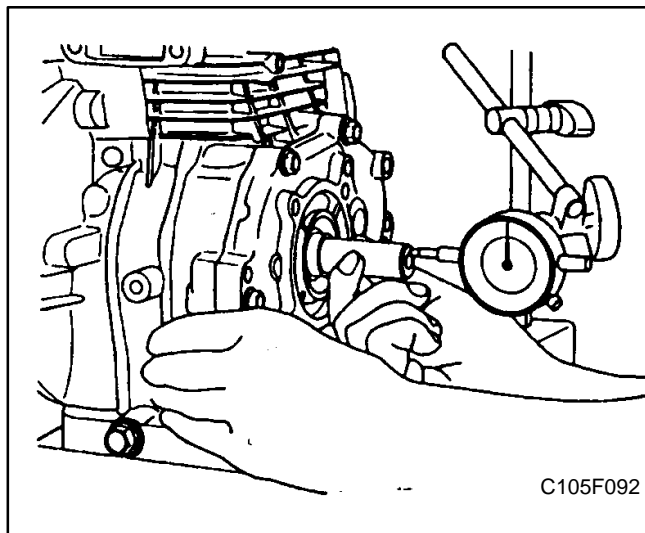

FIGURE 9-25. SIDE CLEARANCE OF CRANKSHAFT
1. Set a dial gauge, as shown in Figure 9-25, push the shaft in and measure the clearance.